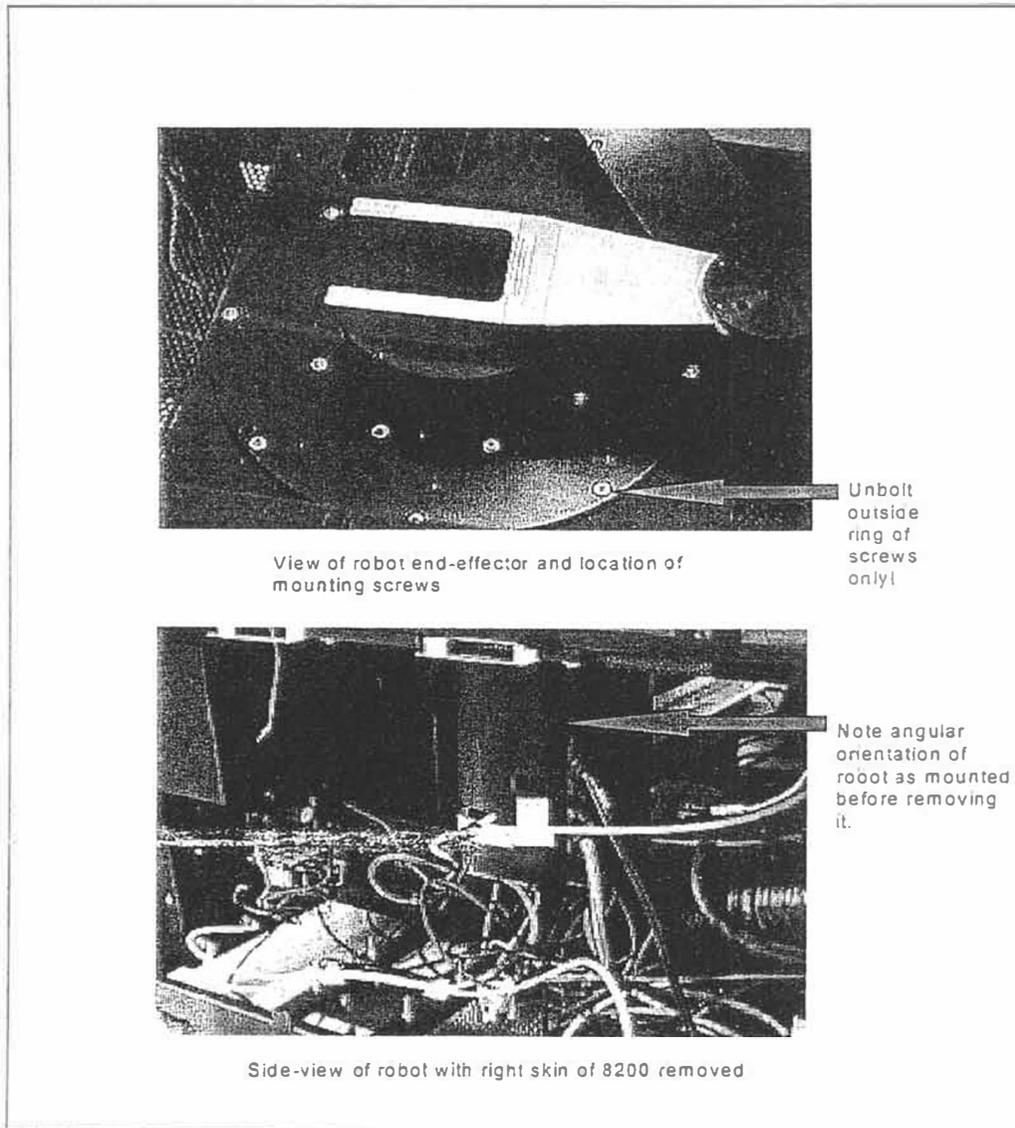

Figure 2.7.2 - Robot Removal
- .3 Removal of robot from system: Note the relative angular placement of the robot in the unit. robot unit itself is attached by the out ring of hex-head screws. See figure 2.7.2 below.
- .5 Loosen the outer ring of hex-head screws as shown in figure 2.7.2. Lift the robot straight-up and out of the system.